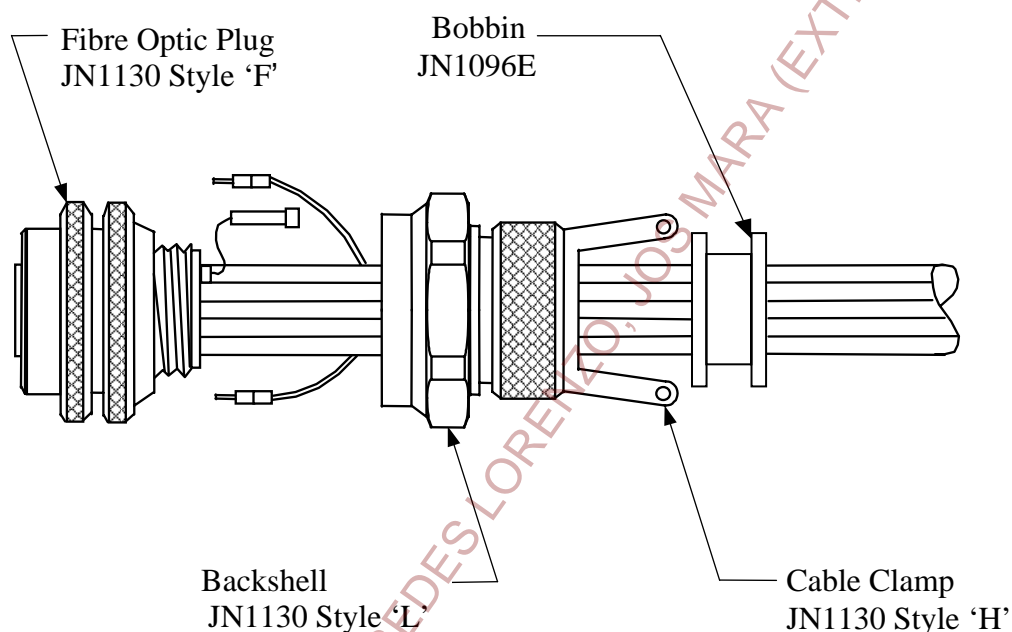

Figure 17
- 4.2.2 Slide the JN1096E bobbin, cable clamp assembly (consisting of JN1130H cable clamp and JN1130L backshell adapter) over the fibre optic bundle as shown in Figure 17.